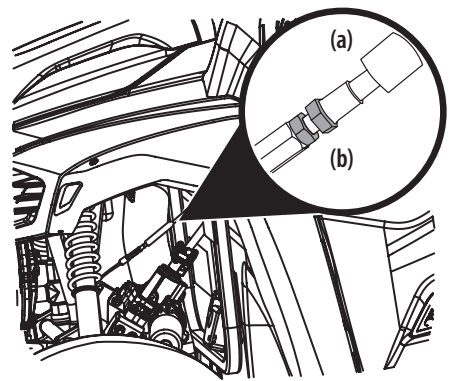

Figure 5-18
- 1. Look inside the driver's side wheel well and locate the adjustment point. Slide back the rubber cover (a) on the adjustment nuts (b). See Figure 5-18.
- 2. Adjust the parking brake handle nuts (b) until the free play in the handle is gone. See Figure 5-18.